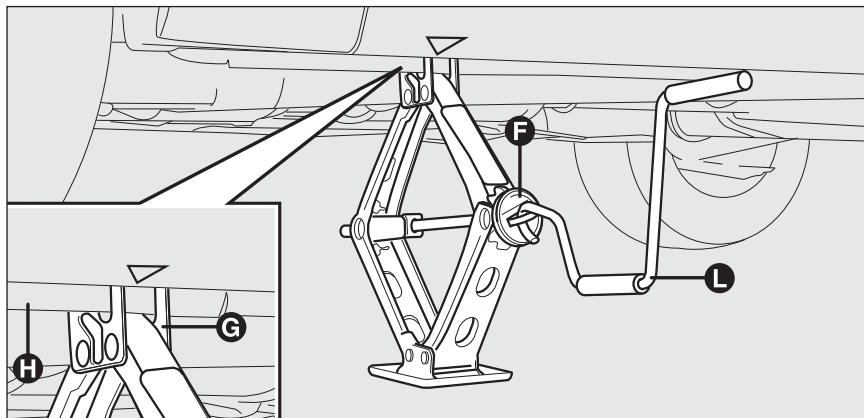

fig. 4
- ☐ operate device **F-fig. 4** to extend the jack until the top of the jack **G-fig. 4** fits correctly into jacking point **H-fig. 4**;
- ☐ fit the handle **L-fig. 4** to operate the jack and lift the car until the wheel is several centimetres off the ground;
- ☐ turn the jack handle **L**-fig. 4 to lower the car and remove the jack;